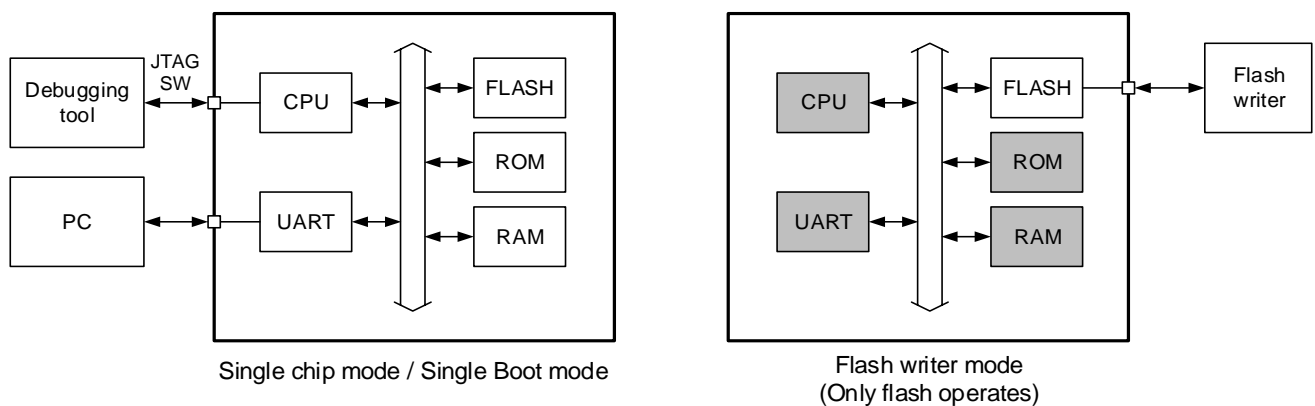

Figure 5.1 Measures for security risk
TPM4K Group(2) contains two measures for security risk to prevent unauthorized access. Table 5.23, Table 5.24 and Figure 5.1 show the assumed access paths and protection targets for each operation mode.